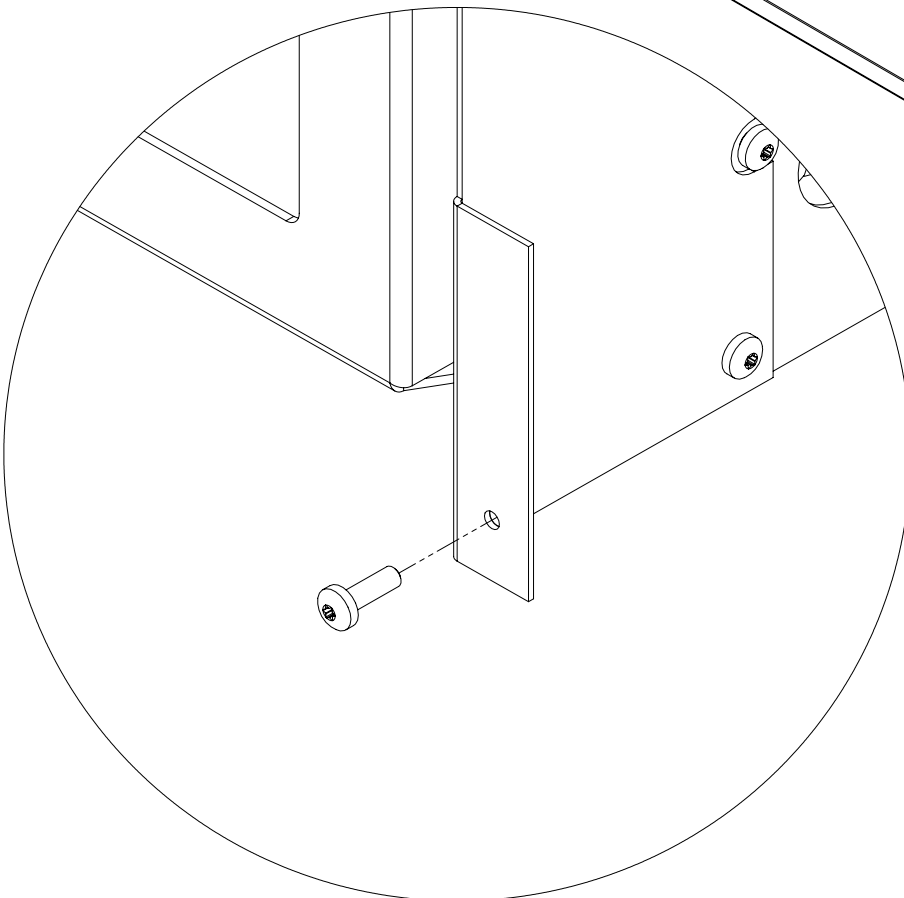

Figure 38: Trimmable Panel Screw Install Close-up.
1. Using a T20 screwdriver, screw one (1) #8-32 x .5" screws approximately 1/4" into the bottom of each Side Extension (see Figure 38).